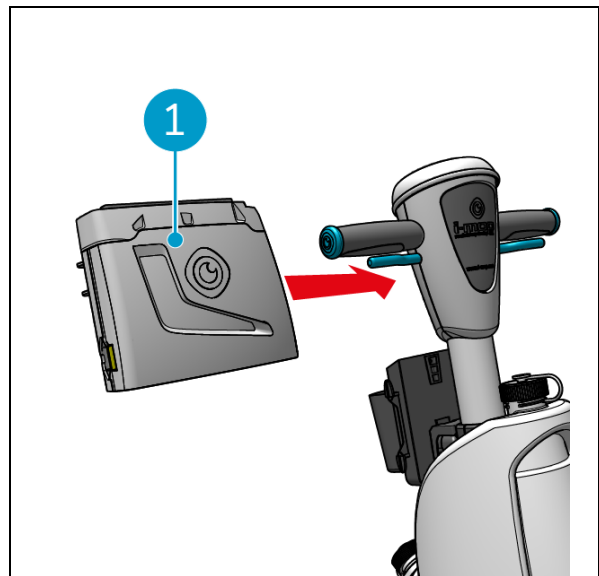

Figure 18
1. Slide the handle controller (Figure 18, pos. 1) onto the handle of the i-mop XL.